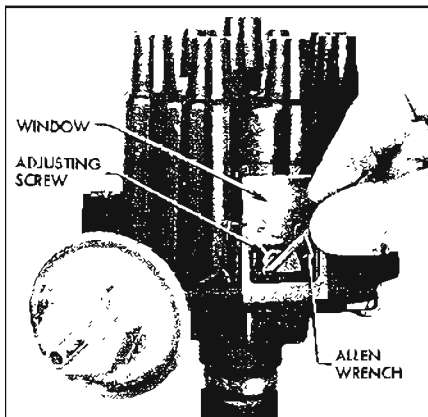

Figure 10-41—Adjusting Contact Point Dwell Angle
3. Start engine. Lift adjustment window and insert 1/8" Allen wrench in adjusting screw. See Figure 10-41. Set dwell angle at 30 degrees.